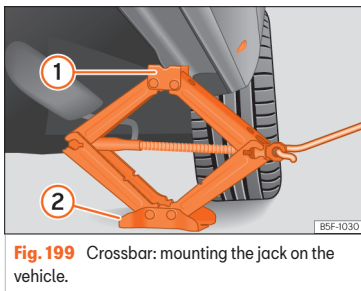

Fig. 199 Crossbar: mounting the jack on the vehicle.
- Turn the jack crank handle, located below the crossbar support point, to raise it until the tab ① >>> **Fig. 199** is below the housing that is provided.
- Align the jack so that the tab ① “grips” onto the housing provided on the cross member and the mobile base ② is resting on the ground. The base plate ② should fall vertically with respect to the support point ①.